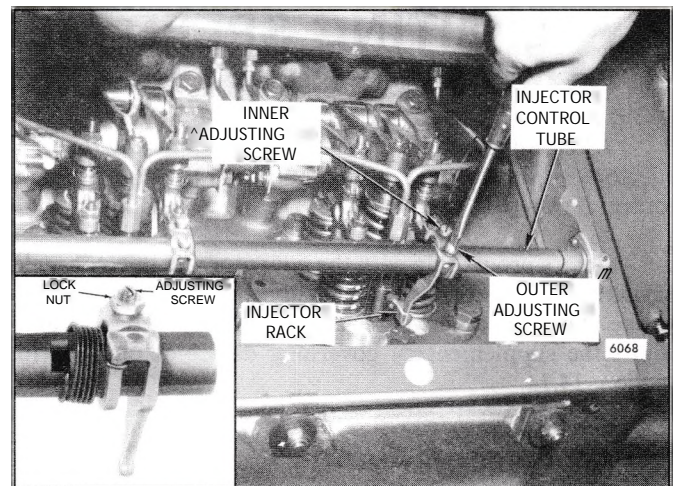

Fig. 4 - Positioning No. 1 Injector Rack Control Lever
- a. With the fuel rod on the left bank injector control tube disconnected and the fuel rod on the right bank injector control tube connected, turn down the outer adjusting screw (Fig. 4) of the No. 1R injector control lever until the ball-end of the lever is just snug against the injector rack (with the rack in the *no-fuel* position).
- a. With the fuel rod on the left bank injector control tube disconnected and the fuel rod on the right bank injector control tube connected, tighten the adjusting screw (Fig. 4) of the No. 1R injector control lever until the ball-end of the lever is just snug against the injector rack (with the rack in the *no-fuel* position).
- a. With the fuel rod on the right bank injector control tube disconnected and the fuel rod on the left bank injector control tube connected, turn down the outer adjusting screw (Fig. 4) of the No. 1L injector control lever until the ball-end of the lever is just snug against the injector rack (with the rack in the *no-fuel* position).